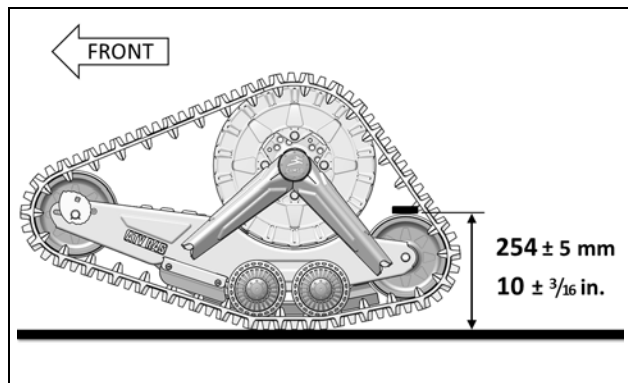

Figure 7
- Once the centered bubble in the level indicates that the angle of attack is correct, double-check the setting by validating the distance from the top of the back tires to the ground. Figure 7.
- Position a flat bar on top of the rear wheels of the front Track System and measure from the ground up to the flat bar as shown on Figure 7.